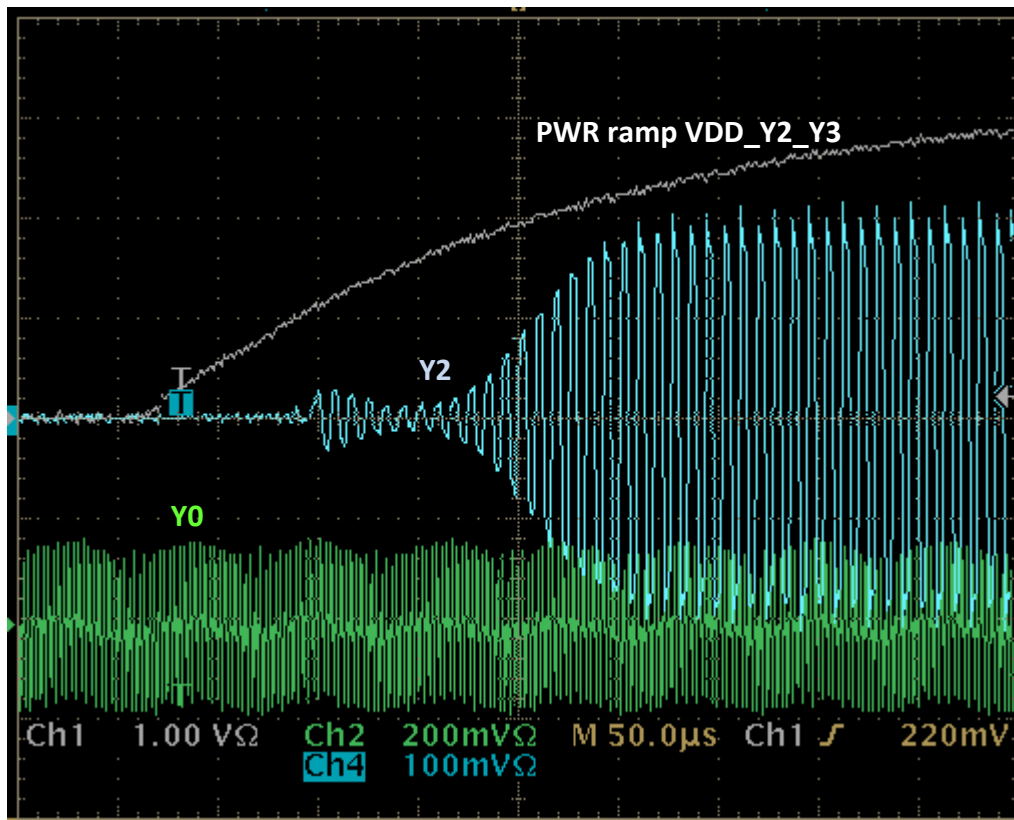

Figure 38. Sequencing the Output Turn-on Through Sequencing the Output Supplies. Output Y2 Powers Up While Output Y0 is Already Running.
2. **Output Power supply domain control:** An even easier scheme might be to connect the clock output power supply VDD_Yx to the corresponding DSP input clock supply domain. In this case, the CDCM6208 output will remain disabled until the DSP rails ramps up as well. Figure 38 shows the turn-on behavior.